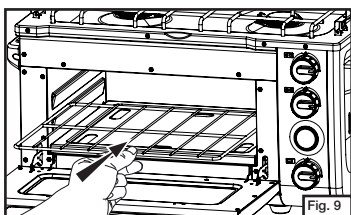

Fig. 9
- Insert the oven rack. (Fig. 9)